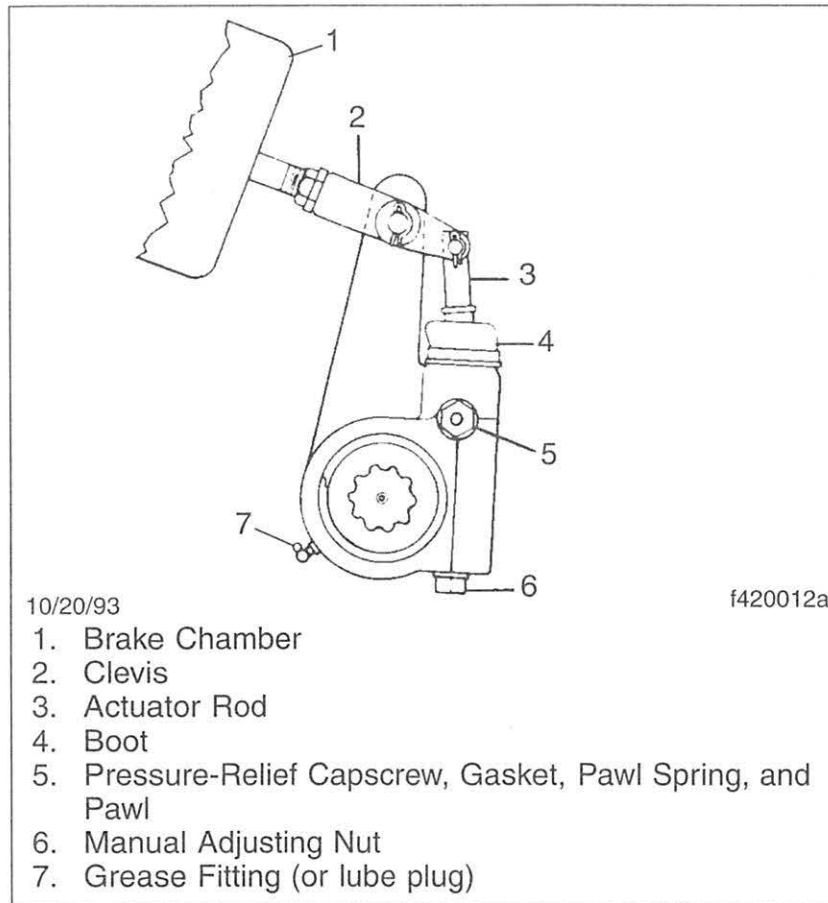
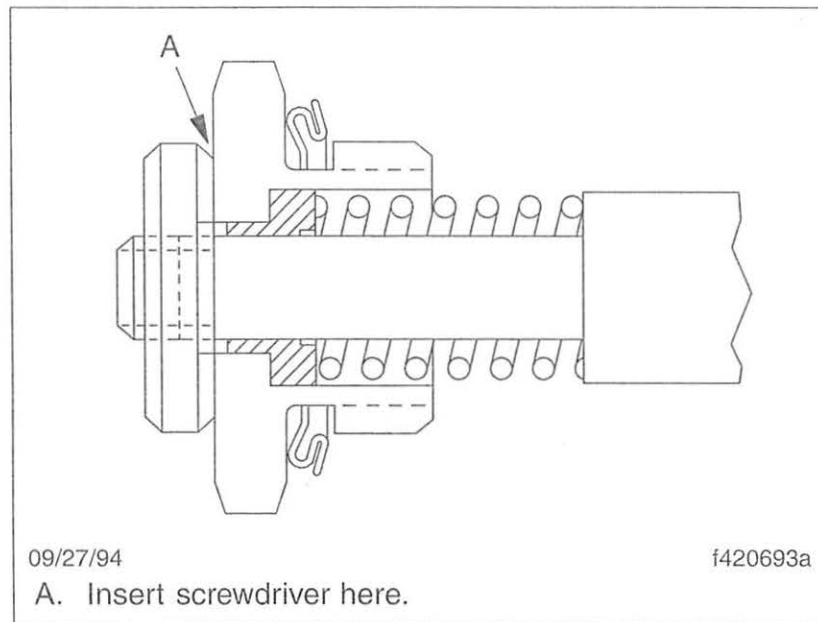

Fig. 11.19, Rockwell Automatic Slack Adjuster
Fig. 11.20, Pull-Pawl Assembly (sectional view)
If the free-stroke is incorrect, remove the pressure relief cap screw, spring, and pawl assembly (See **Fig. 11.19**, Ref. 5) from the slack adjuster housing. If equipped with a pull-pawl assembly, See **Fig. 11.20**, carefully insert a screwdriver and raise the relief cap about 1/8 inch (3.2 mm).
- If the brake chamber stroke is incorrect, remove the pressure-relief capscrew, spring, and pawl assembly (**Fig. 11.19**, Ref. 5) from the slack adjuster housing. If equipped with a pull-pawl assembly (**Fig. 11.20**), carefully insert a screwdriver and raise the relief cap about 1/8-inch (3.2 mm).